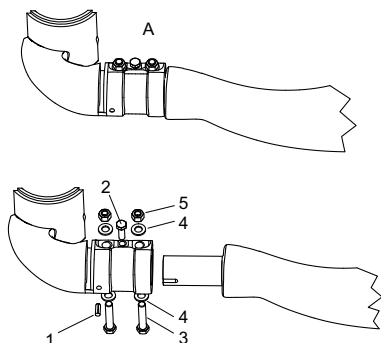

Fig. 14 AFG.xx.180/230
1. Check the premounted pins (pos. 1) (only for positioning).
2. Tighten the screw (pos. 2) to widen the opening in the hub.
4. Remove the screw (pos. 2).
5. Put Loctite 243 threadlocker on the thread of the screw (pos. 3).
6. Mount pos. 3, 4 and 5 in both holes and tighten by hand.
7. Tighten both nuts (pos. 5) with a torque wrench to 100 Nm (A4-80).
8. Carry out a visual check. See pos. A in fig. 14.
9. Refit the screw (pos. 2) and tighten only slightly.